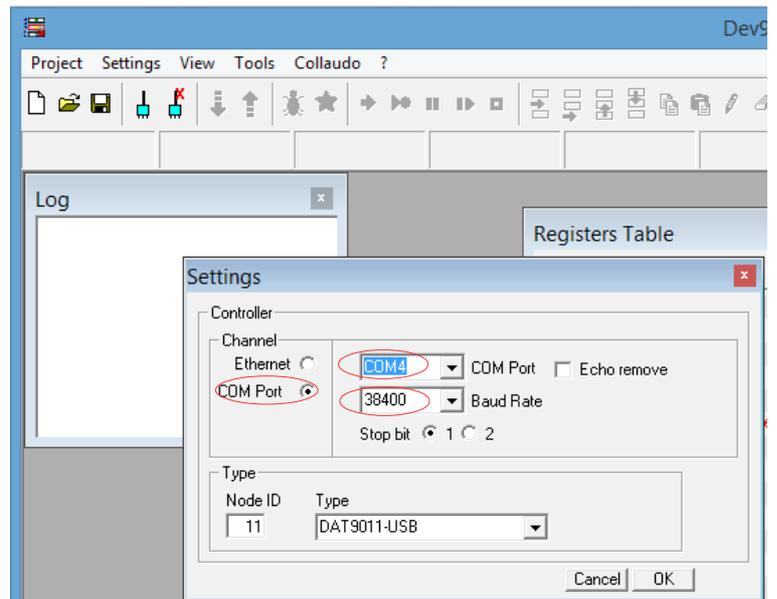

Fig 2.2: Select COM port and Baud Rate
- In the section “Channel” select “COM Port”; (Fig. 2.2)
- Now, select COM port (on PC) and Baud Rate from list box menu; (Fig. 2.2)